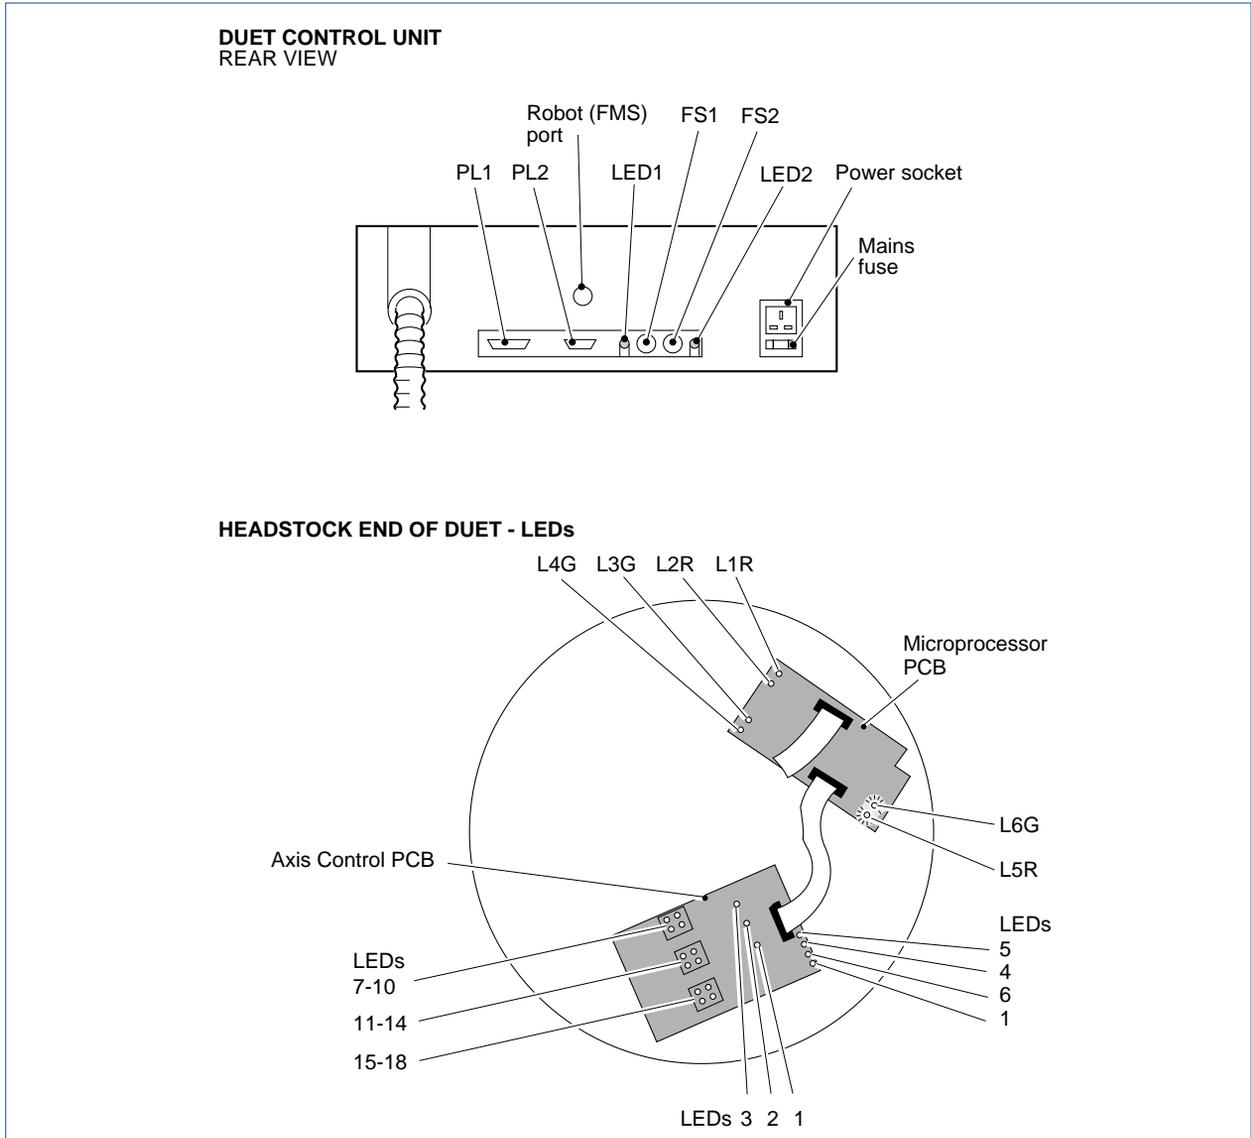

Figure 9.1 LEDs and Fuses
3. On the Axis Control PCB, check: Figure 9.1
4. On the Microprocessor PCB, check: Figure 9.1
- Check that LEDs L5R and L6R flash alternately until the program is downloaded, then check that L5R is OFF and L6R is ON. Figure 9.1
9.2 LEDs, Test Points and Fuses (Figure 9.1)